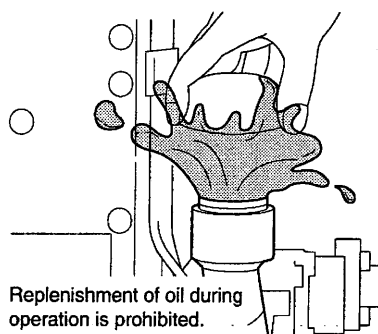

Fig. 4
- * *Oil shall be scattered if it is replenished during operation. Replenish oil always when the compressor is in stop. (Fig. 4)*